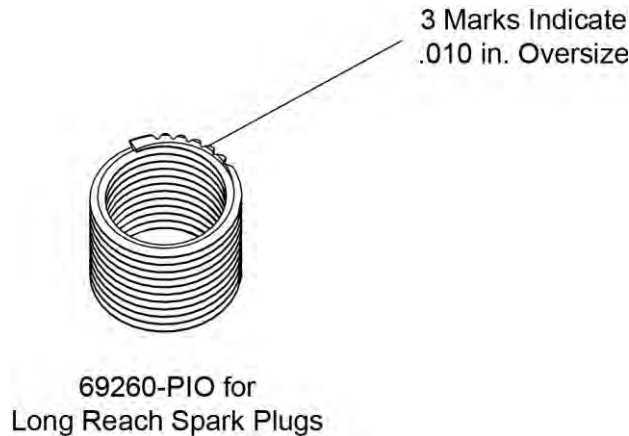

Figure 41
NOTICE: Always install a larger oversized 0.010 in. (0.254 mm) Heli-Coil® insert in the spark plug hole on the cylinder head to replace a standard sized Heli-Coil® insert. Never replace a standard sized Heli-Coil® insert with another standard sized Heli-Coil® insert. The oversize Heli-Coil® inserts are identified by three marks on the tang of the Heli-Coil® insert as shown Figure 41.
- (5) Turn the crankshaft to the start of the compression stroke.
- (6) Put 8 ft. (2.4 m) of 3/8 in. (9.5 mm) nylon rope through the opposite spark plug hole.
- (7) Turn the crankshaft to force the rope against the bottom of the spark plug hole that is to be tapped.
- (8) Use the 0.010 in. oversize tap, to drill a larger oversize hole for the oversize insert.
- (9) Install the new oversize 0.010 in. Heli-Coil® insert in the spark plug hole. Refer to Figure 41.
- (10) Remove all chips and shavings to prevent contamination from foreign object debris.
- (11) Remove the rope from the spark plug hole.
- (12) Record replacement, in the engine logbook, of the standard sized Heli-Coil® insert with a new oversized Heli-Coil® insert for the applicable cylinder number.